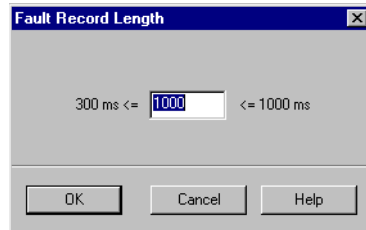

Figure 6-14 Fault Record Length dialog box in DIGSI
- ❑ Click **Device** → **Trigger test fault recording...** on the menu bar. The window Fault Record Length opens (Figure 6-14, page 219).